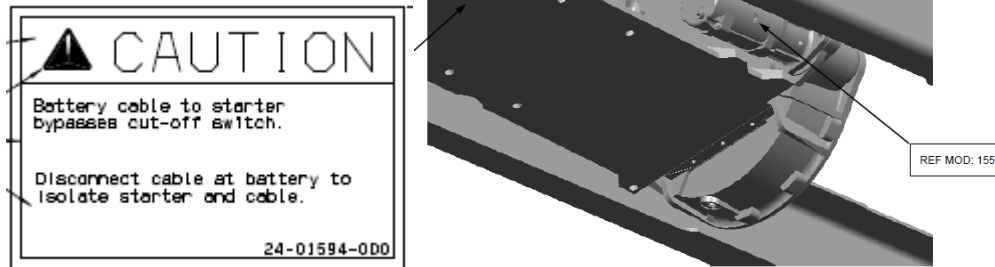

Fig. 23, Warning Label Installation
13. Install the warning label (part number 24-01594-000), shown in **Fig. 23**, on the outside centerline of the frame rail, in line with the starter power leads.